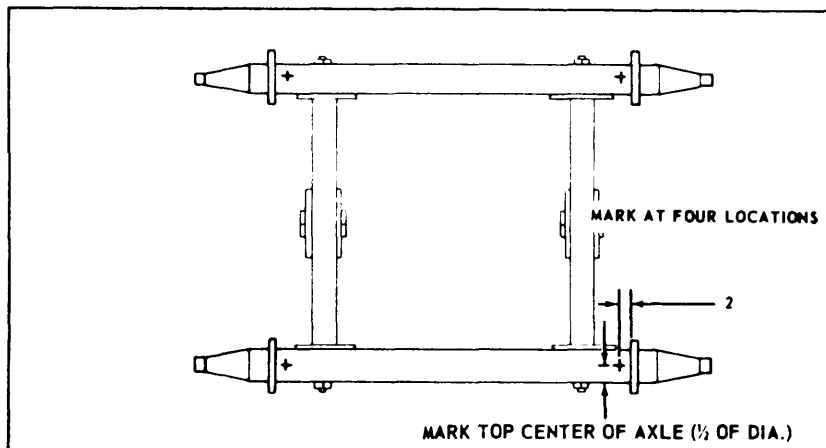
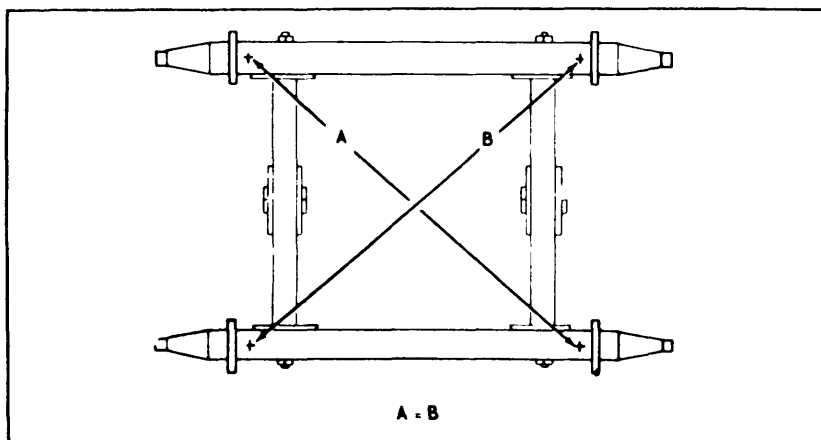

FIGURE 10-15 MARKING CHECK POINTS FOR DIAGONAL MEASUREMENT
FIGURE 10-16. EQUALIZING AXLES THROUGH DIAGONAL MEASUREMENT.
g. Check dimensions across corners. Locate the top center of the axle at 2 in. (50.8 mm) in from the brake spider. Mark this point (see figure 10-15). Be very accurate as this dimension is critical. Make this mark at four (4) locations. Measure the distance between marks diagonally across the tandem. The two diagonal measurements (A & B) should be equal. If not, adjust the new axle in its seat as required (see figure 10-16).